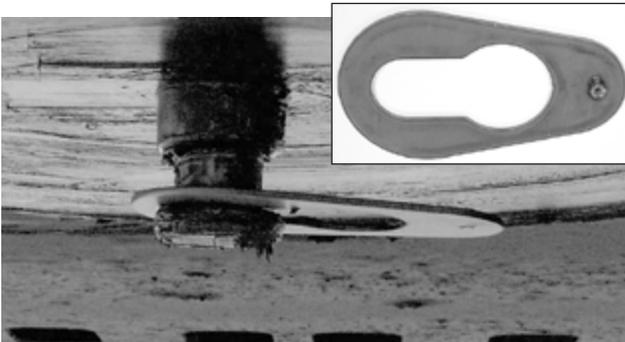
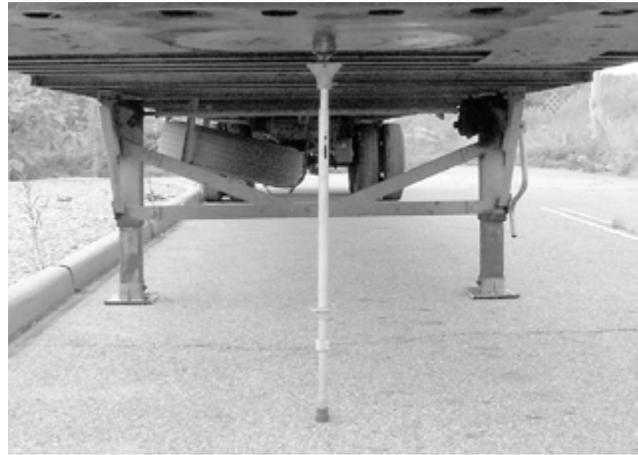

Figure 17: Kingpin adapter
Figure 18: Kingpin extender
- A. If this sightline is free from under-trailer obstructions that would interfere with a measurement (i.e., landing legs, trailer frame, tool boxes, etc.), then the kingpin adapter (Figure 17) can be used to make the measurement in Step 5.
- B. If this sightline is obstructed, then the kingpin extender or pogo stick (Figure 18) must be used to lower the connection for the measurement in Step 5.
2. Place kingpin adapter (Figure 17) or kingpin extender (Figure 18) onto the kingpin.